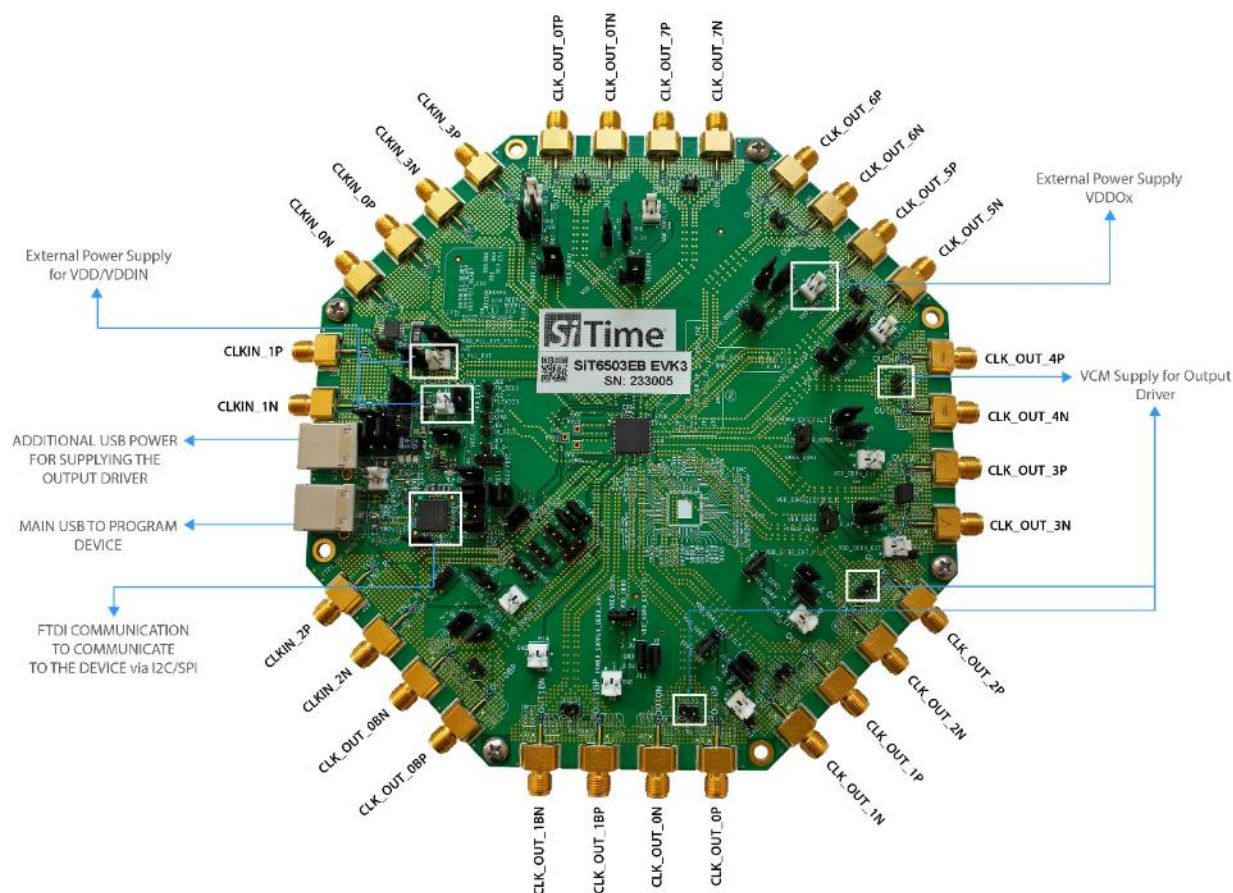

Figure 8. SiT6503EB Starter Connection Diagram
- EVB default configuration is shown in Figure 8.